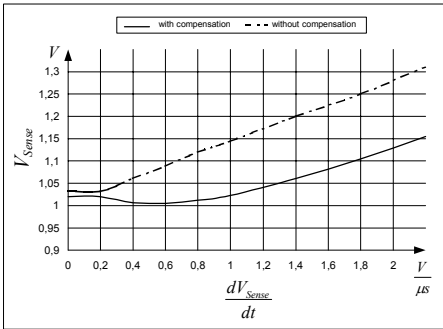

Figure 13 Overcurrent Shutdown
the overshoot dependency on dI/dt of the rising primary current. That means the propagation delay time between exceeding the current sense threshold V_{csth} and the switch off of the external Power Switch is compensated over temperature within a wide range. Current Limiting is now possible in a very accurate way (see Figure 13).
E.g. $I_{peak} = 0.5A$ with $R_{Sense} = 2$. Without Propagation Delay Compensation the current sense threshold is set to a static voltage level $V_{csth} = 1V$. A current ramp of $dI/dt = 0.4A/\mu s$, that means $dV_{Sense}/dt = 0.8V/\mu s$, and a propagation delay time of i.e. $t_{Propagation\ Delay} = 180ns$ leads then to an I_{peak} overshoot of 12%. By means of propagation delay compensation the overshoot is only about 2% (see Figure 13).